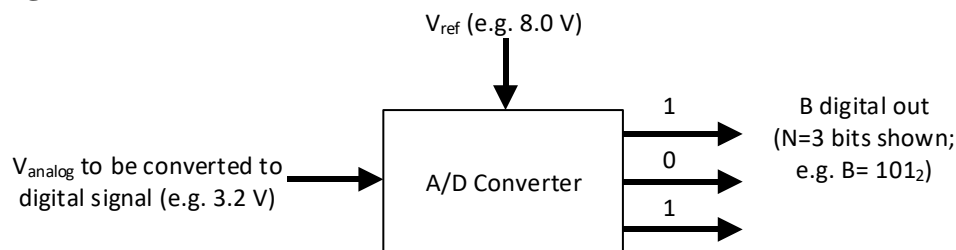

Figure 1- Block diagram of generic A/D Converter
- a) How precise, in %, must the resistor be that has the most control over the output (e.g. the leftmost 10k in the 3bit converter of Figure 1) so that, assuming all the other resistors are perfect, the output value varies less than one least-significant bit's worth? It makes no sense to design a bit converter whose output varies more from resistor tolerances than from its least significant bit. To test that, give 1000 0000 as an input and see how much the voltage varies as you alter the value of the leftmost resistor. How accurate must the tolerance on that resistor be to vary the output by less than 1 LSB?